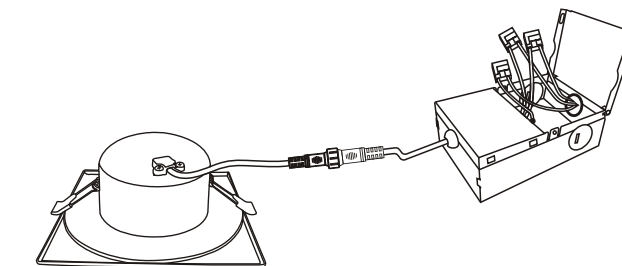

Fig. 2
8. Remodel applications: Insert the driver box into the ceiling (Fig.2).